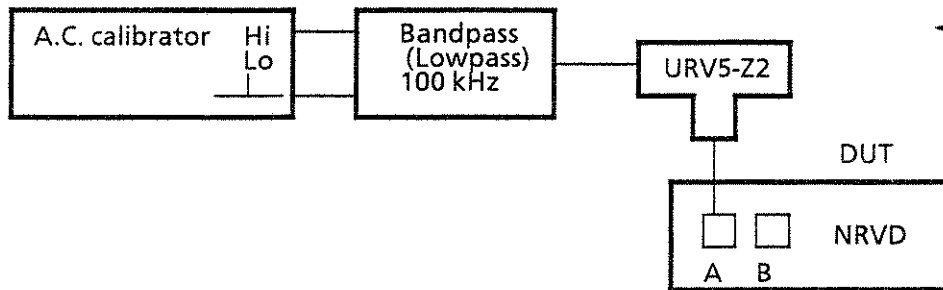

Fig. 5-2 Testing the A.C. measuring accuracy
A.C. measuring accuracy is checked by measuring the output voltages of an A.C. calibrator using the Insertion Unit URV5-Z2 (fig. 5-2). The noise voltage at the calibrator output (determined in broadband measurement) must not exceed 200 μ V; otherwise a lowpass filter or voltage divider is required.